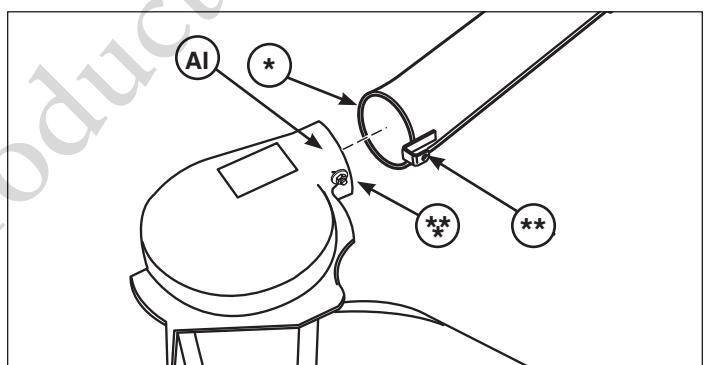

Figure 32
2. Slide the intake end of tube assembly (*, Figure 32) over the turbo outlet (**AI**).